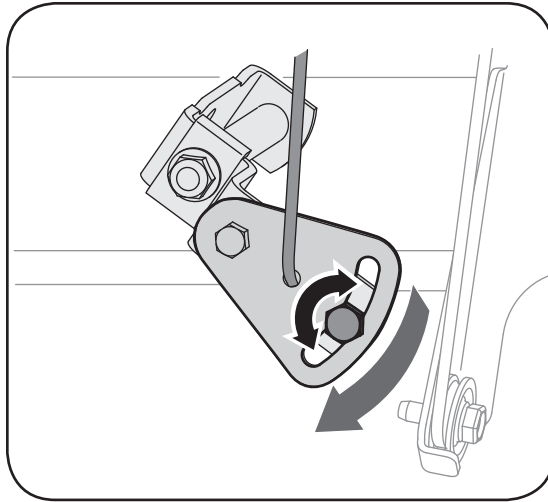

Figure 14
2. Loosen the hex nut on the shift cable index bracket. See Figure 14.